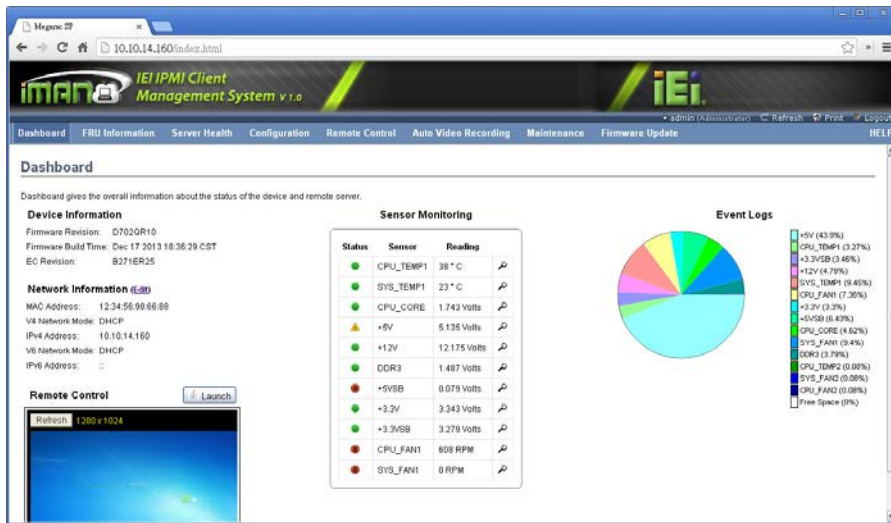

Figure 4-6: IEI iMAN Web GUI
Step 6: The IEI iMAN Web GUI appears (**Figure 4-6**).